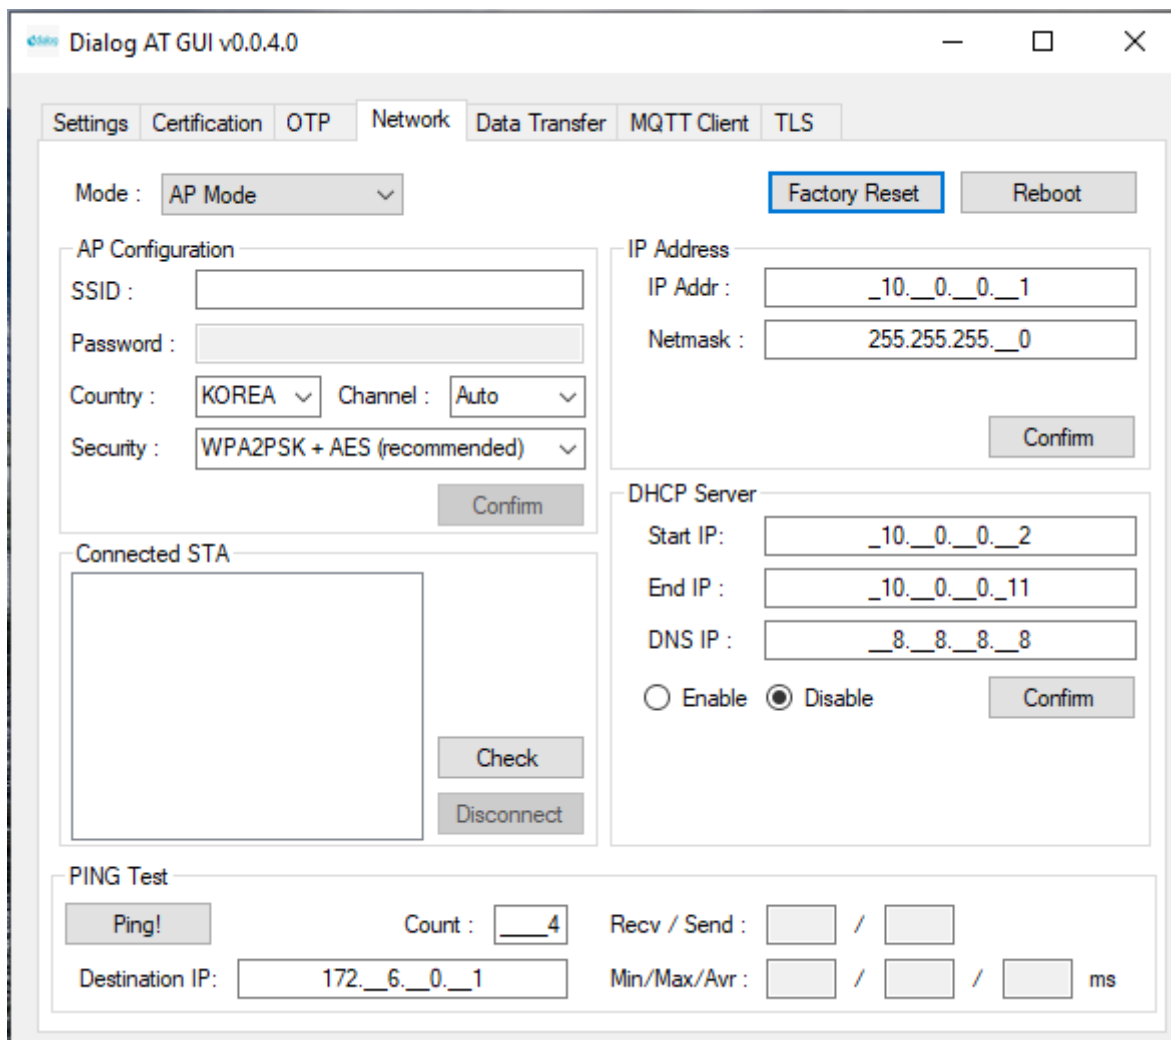

Figure 19: Setup Window - AP Mode
- The network mode changes, DA16200 reboots and the AP Mode setup window opens. See Figure 19.